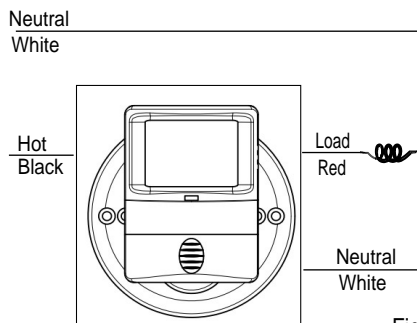

Figure 2
2. Connect lead wires as WIRING DIAGRAM (see Figure 2): Black lead Line(Hot), Red lead to Load wire, White lead to Neutral wire.